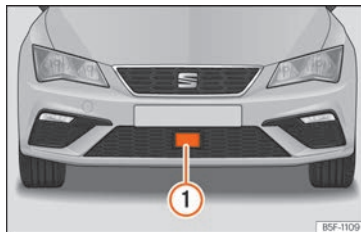

Fig. 271 On the front bumper: radar sensor.
With the vehicle stationary, switch off the engine and start it up again. Check the radar sensor visually »» Fig. 271 (for dirt, ice or knocks). If it is still unavailable, refer to a specialised workshop to have the system inspected.
A radar sensor is installed on the front bumper to determine the traffic situation » Fig. 271 ①.
This message will be displayed to the driver if the radar sensor's vision is impaired due, for example, to leaves, snow, heavy fog or dirt. Clean the SEAT badge »» Fig. 271.